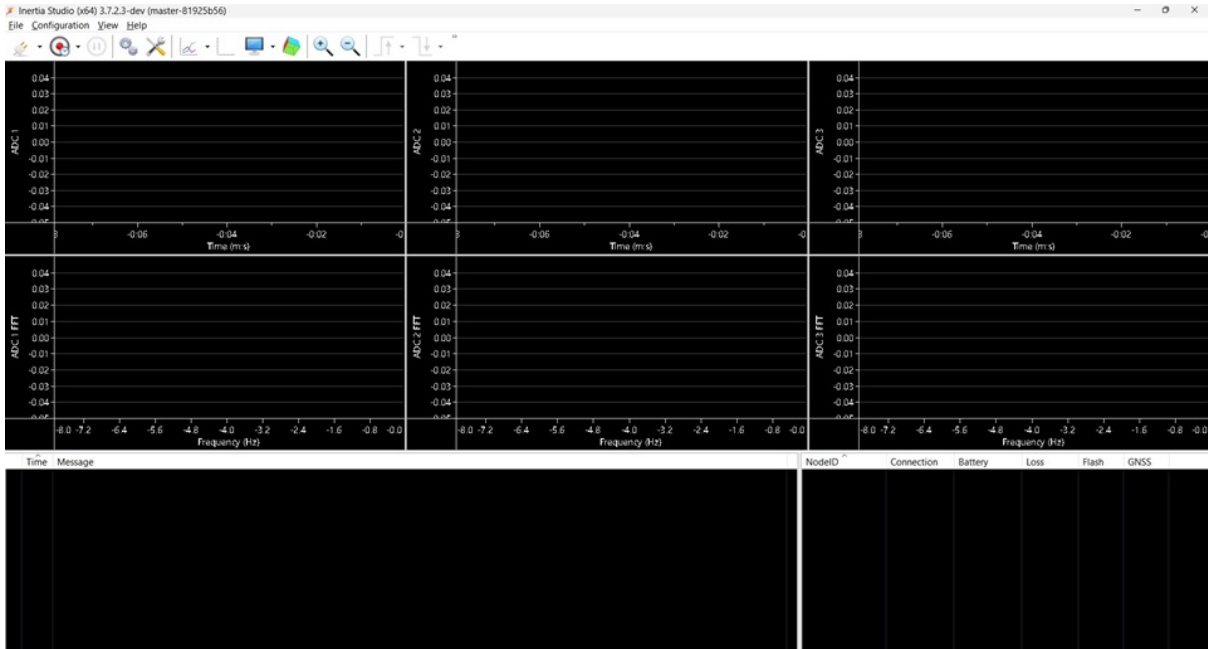

Figure 68: Inertia Studio layout for *nexoDAQ*
2. Start Inertia Studio. Using the layout wizard, select the predefined layout **Analog Inputs + FFTs (3x)** from the list (Section 3.12.1), see Figure 68.